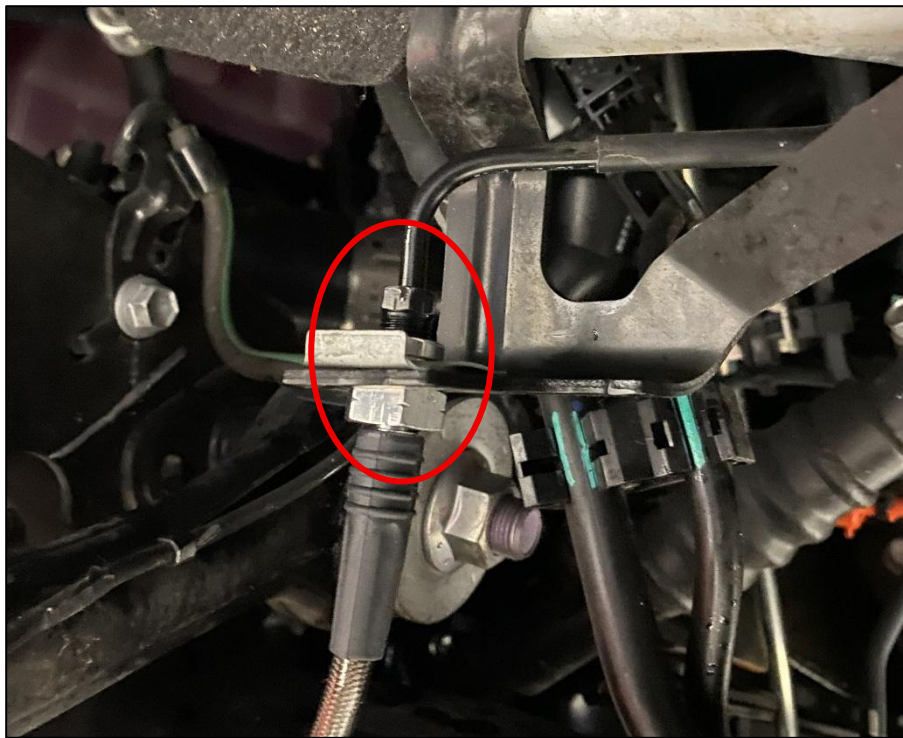

Figure 7
7. Connect the other end of the new Brake Line to the Upper OE Hard Line. Use a Flared Wrench to tighten the Lines together. *Figure 7.*